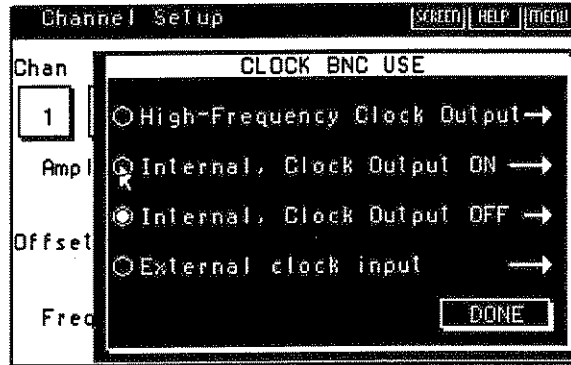

Figure 2-20. Clock Out
10. **Clock Out Check.** Move the mouse pointer to the MENU button and click the left mouse button. Press the "soft" key next to CLOCK BNC. Select Internal, Clock Output ON from the list using the "soft" keys. See figure 2-20. Connect the Arb Channel's CLK IN/OUT to channel 1 on the scope; be sure to terminate the CLK OUT cable with a 50Ω termination. Observe on the scope a 50 MHz TTL signal, which is the standard waveform's sample frequency.